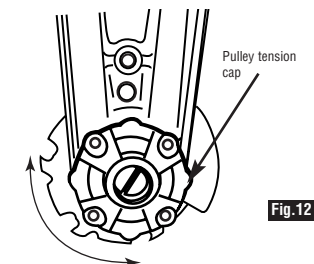

Fig.12
• Tensioning the belt ①④ is now required by turning the pulley tensioning cap ⑥ (fig.12). Hold the tool in a way so that the belt is visible. As you turn the tensioning cap ⑥ you will notice that the belt slowly tensions as shown in fig.11.